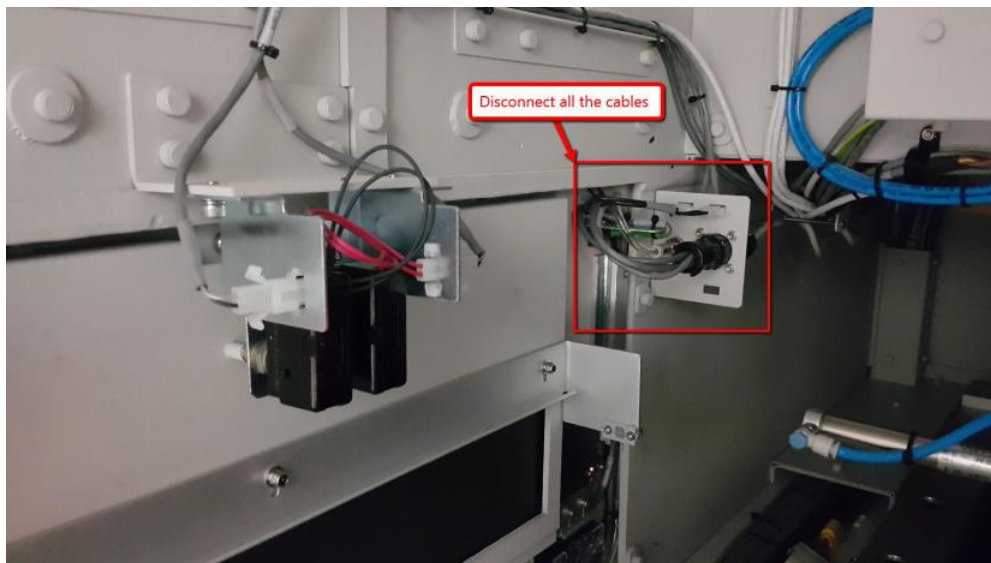

Figure 1 Left Outer Barrier Connectors
- i. Unplug all the cables shown in the Figure 1